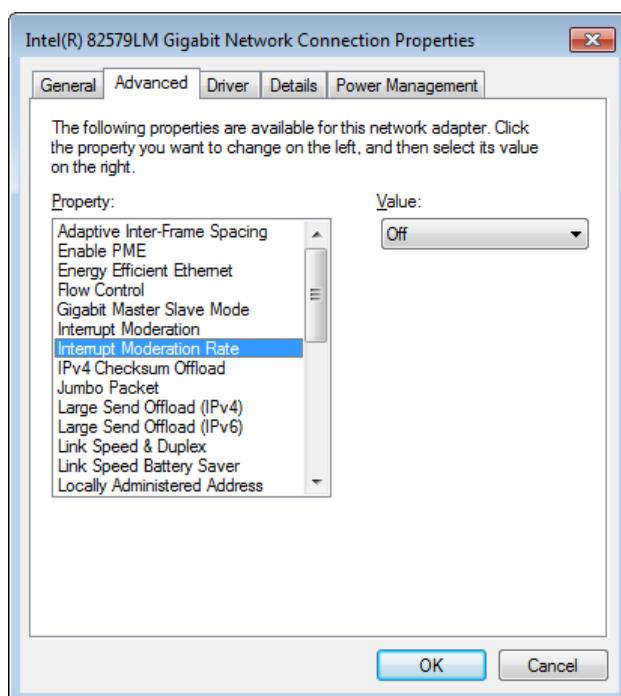

Figure 82: Network interface card - advanced driver settings - Interrupt Moderation Rate
To optimize the latency of the data transmission, it is recommended to disable the *Interrupt Moderation Rate* feature of the network adapter. This feature changes the way of interrupt generation by an incoming packet and makes it possible to reduce the delay in the processing of incoming Ethernet packets. It is usually accessible via the identically named property in the advanced driver settings of the NIC, shown in Figure 82.
4. The settings of the driver can be accessed by choosing the *Advanced* tab of the opened window. As shown in Figure 82, set the value of the *Interrupt Moderation Rate* property to *Off* or *Disabled*.